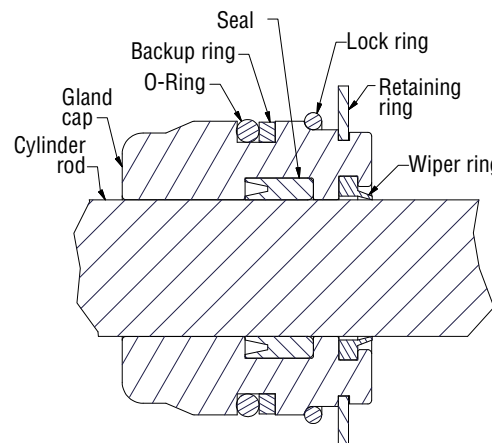

Figure 6-8, Gland Cap Seal
3. Install the seals and wipers in the gland cap. Note the direction of the seals. The cupped side or O-ring side of the seal should be facing the piston. (Figure 6-8)